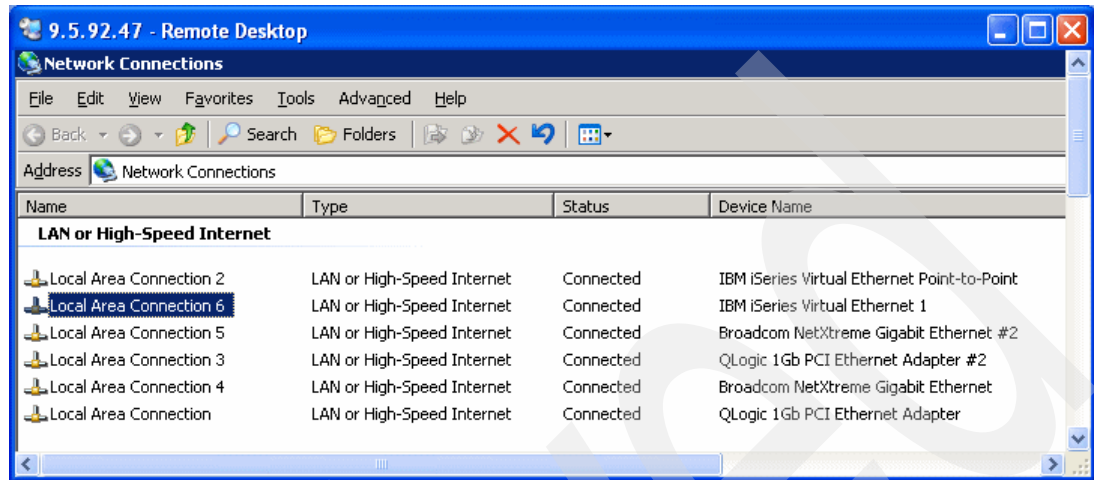

Figure 9-76 Viewing the Windows network connections
2. Right-click **Network Connections**. Select **Open**. You see a display similar to the one shown in Figure 9-76.
4. (Optional) We explore one of the Virtual Ethernet LAN connections shown in Figure 9-76 on page 448 as follows: